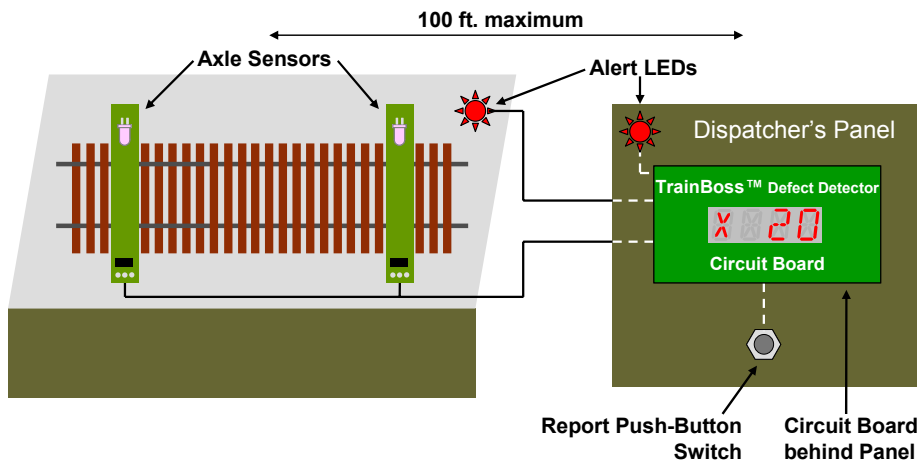

Figure 1: Remote Display Installation
**Figures 1 and 2** show two options for locating the Defect Detector’s circuit board and Alerting LEDs. The circuit board can be up to 100 feet away from the Axle Sensors for remote operators as shown in **Figure 1**. In **Figure 2**, train crews directly read car/axle information from the Defect Detector. Pressing the **Report** push button displays/repeats the message.
If axle count is not correct, check the alignment of the “W” Axle Sensor. The infrared beam should just clear the railhead as in **Figure 1** in your **Product Manual**.
If you do not receive a speed or length report, check the alignment of the “S” Axle Sensor. The infrared beam should just clear the railhead as in **Figure 1** in your **Product Manual**. Also check your wiring.